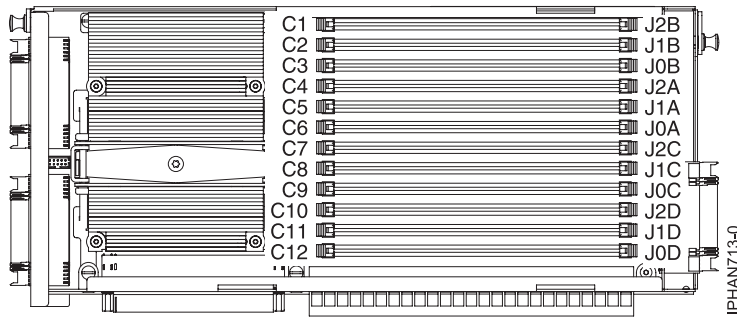

Figure 2. Memory module slot locations in the processor assembly for processor features 5620, 5622, 7380, 7387, 7388, and 7540
- Each processor assembly has 12 memory module slots. See Figure 2 on page 8 for the memory module slot locations in the processor assembly. The memory modules must be plugged into the slots in the following order: